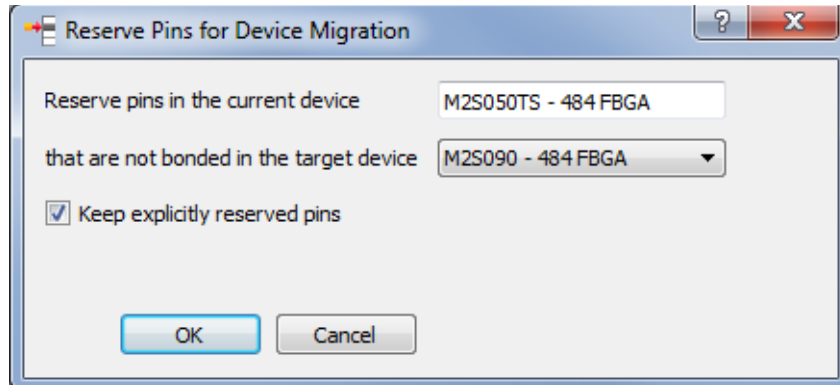

Figure 5 • Reserve Pins for Device Migration
2. Select the **Reserve Pins for Device Migration** option from the Tools menu. The window shown below in Figure 5 is displayed.